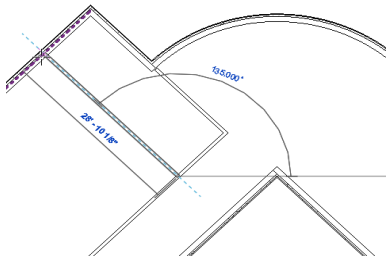

Figure 3-72 Sketching the third interior wall
7. Move the cursor upward toward the left such that it subtends an angle of 135 degrees with the horizontal until it reaches the exterior wall and the **Nearest** object snap is displayed, as shown in Figure 3-72. Click to specify the endpoint of the wall.